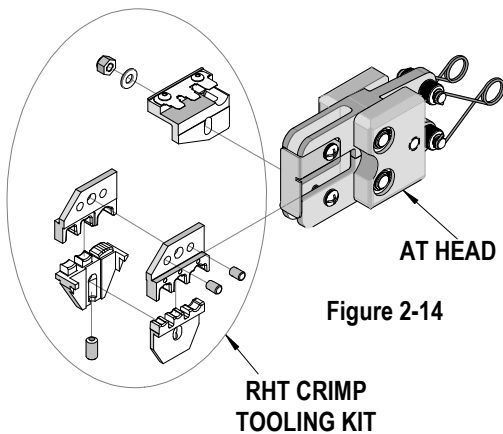

Figure 2-14
1. Install the RHT tooling kit with locator, into the AT Power Crimp Head. See Figures 2-14.